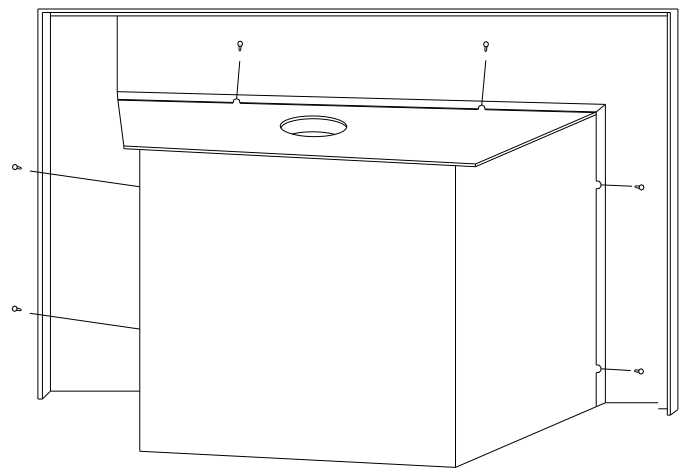

FIGURE 3
- (A) Mount the top trim panel.
- (B) Mount the side trim panels with the mounting screws, provided. (FIGURE 3)